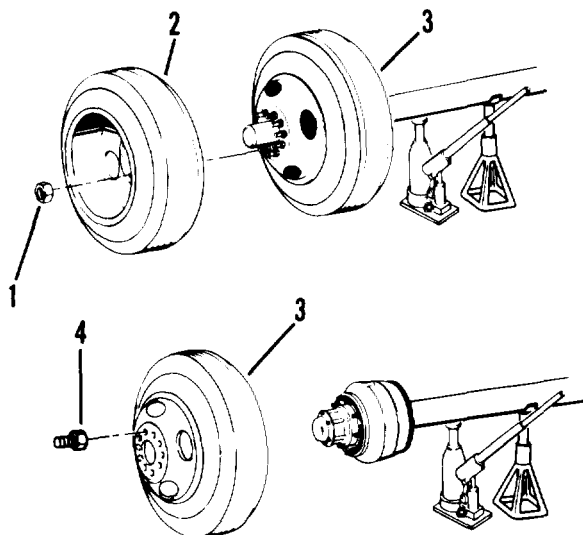

Figure 3-8. Jacking and tire removal
- c. Position jack under axle closest to where tire(s) will be removed (figure 3-8).
- d. Loosen, but do not remove ten lug nuts (1).
- f. Remove ten lug nuts (1) and tire (2).